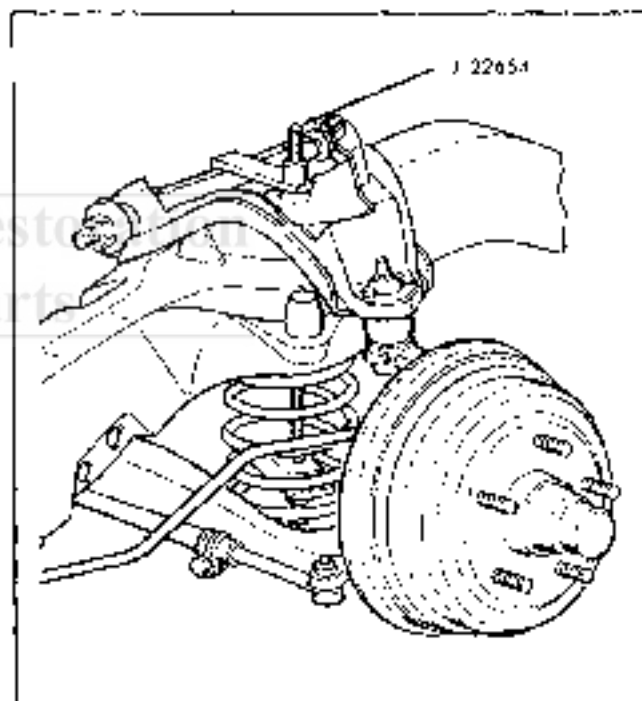

Fig. 3-10 Tempest Coil Spring Compressor J 22654
5. Using tool J 22654 compress spring until coil leaves lower control arm, Fig. 3-10. Insert plate in the lowest possible coil.